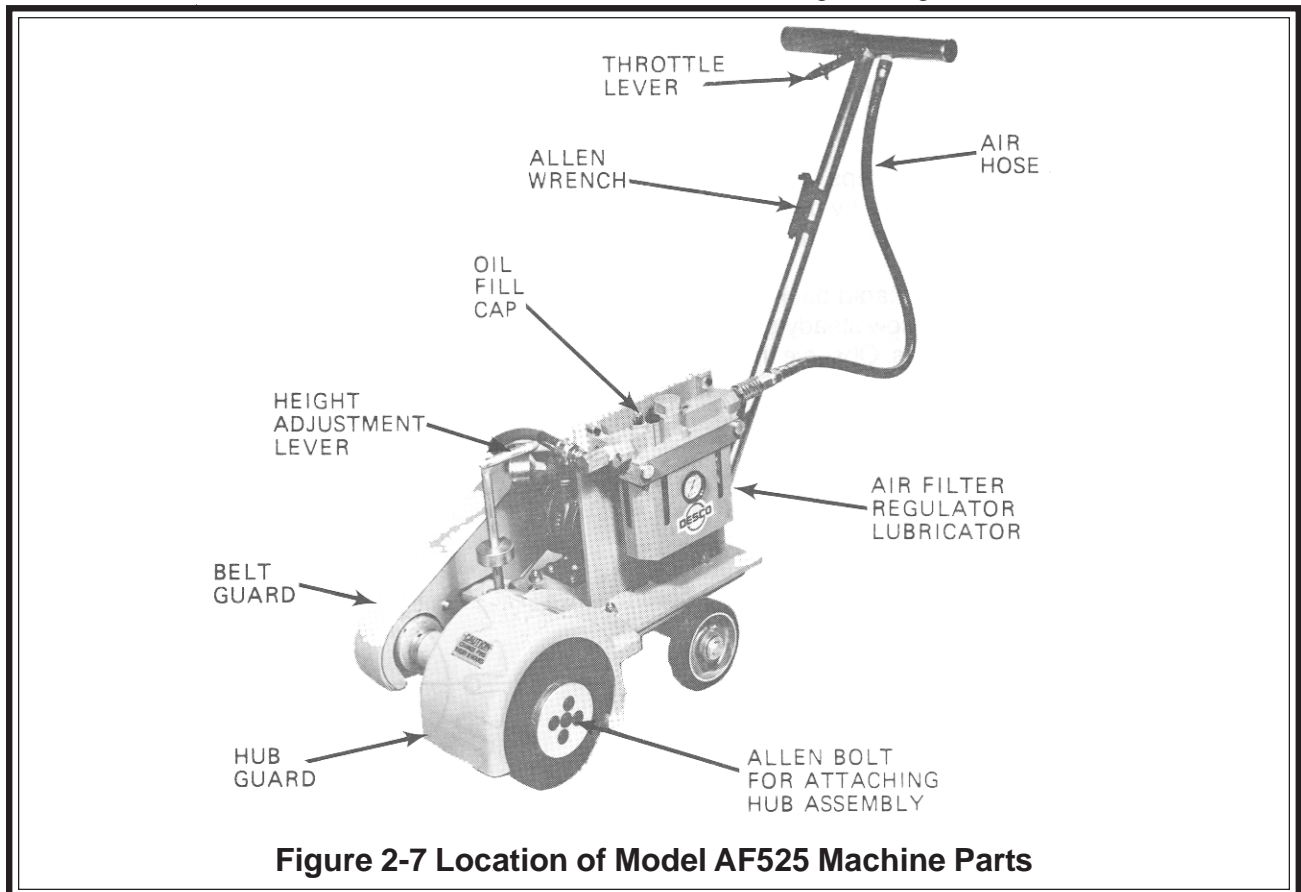

Figure 2-7 Location of Model AF525 Machine Parts
2.3 Preparation for AF525 Operation (Figure 2-7)